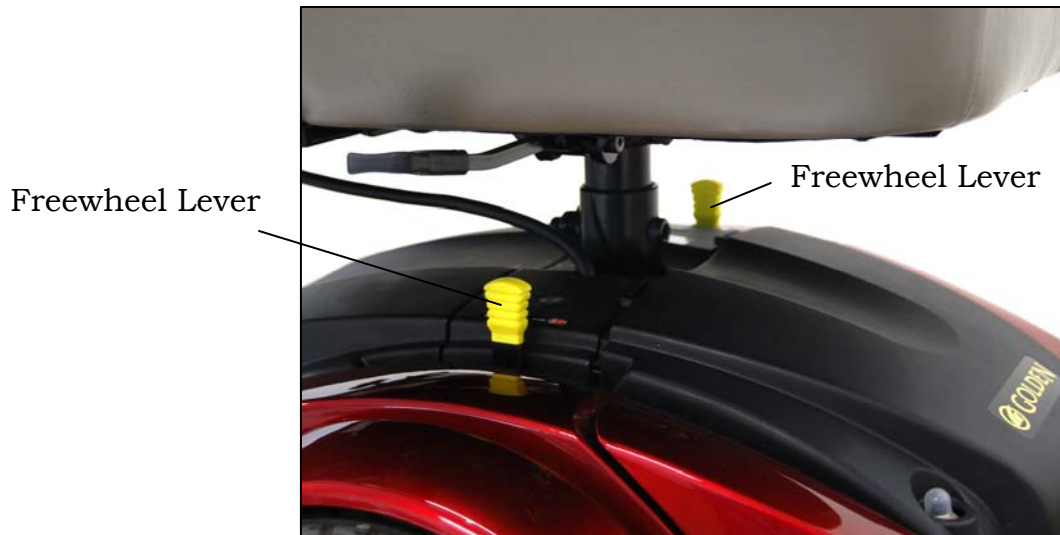

Figure 21
- ♦ To disengage the gears and put your power chair in freewheel mode, pull the freewheel levers forward towards the front of your chair. See figure 21.
- ♦ To re-engage the gears and take your chair out of freewheel mode, push the levers back towards the rear of your chair. See figure 21.